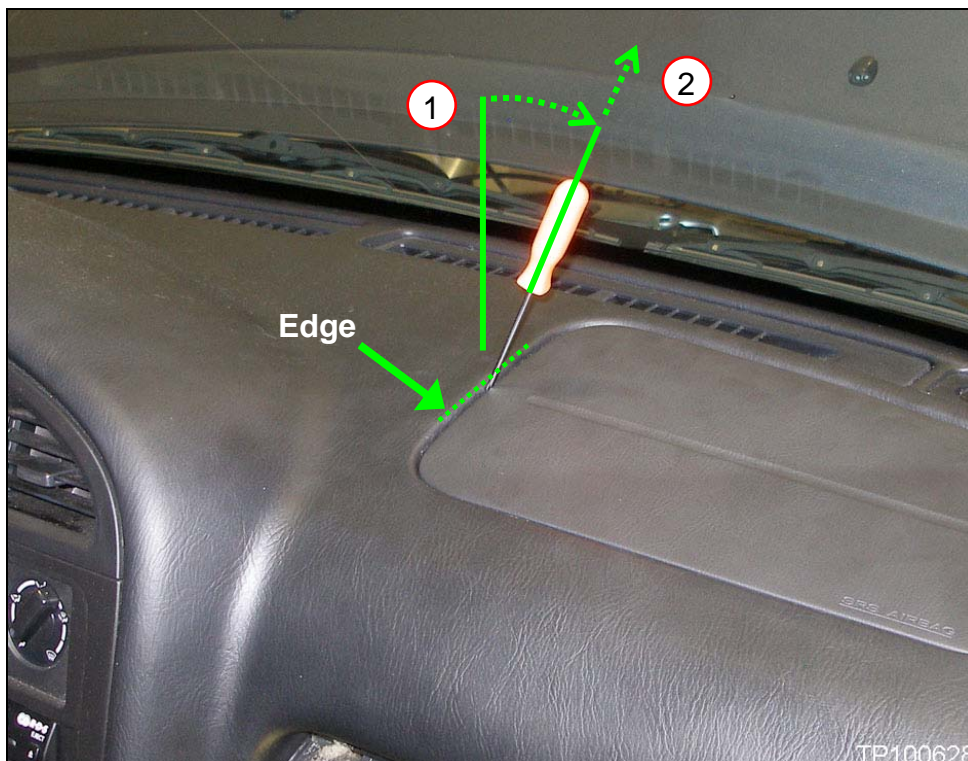

Figure 4
- c. Tilt the tool away from the instrument panel opening edge, and then pull up (see Figure 4).